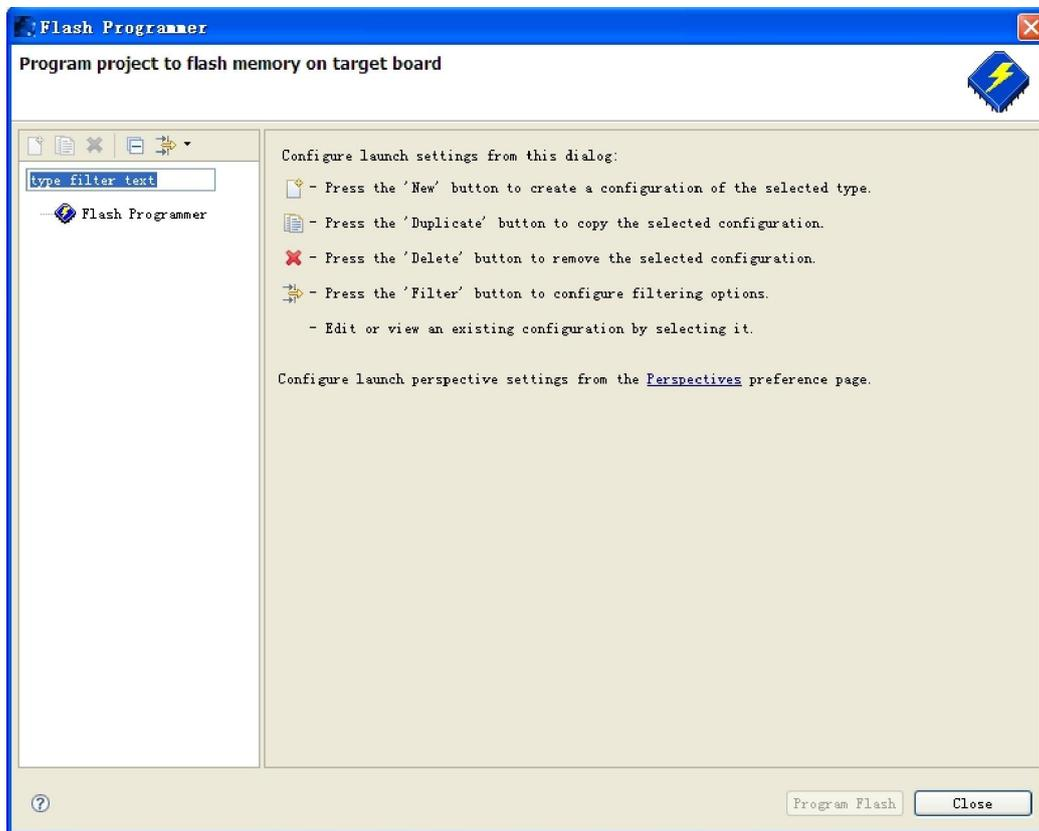

Figure 3-14 Flash Programmer Box
1. Choose **Tools > Flash Programmer...** to open Flash Programmer box. See **Figure 3-14**.